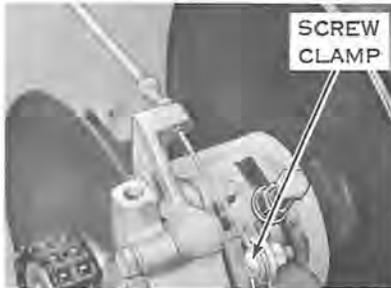

Figure 9-21. (1965)
- Make sure end of cable fitting is flush with body. Thread cable through fitting and screw clamp (see Figure 9-21).